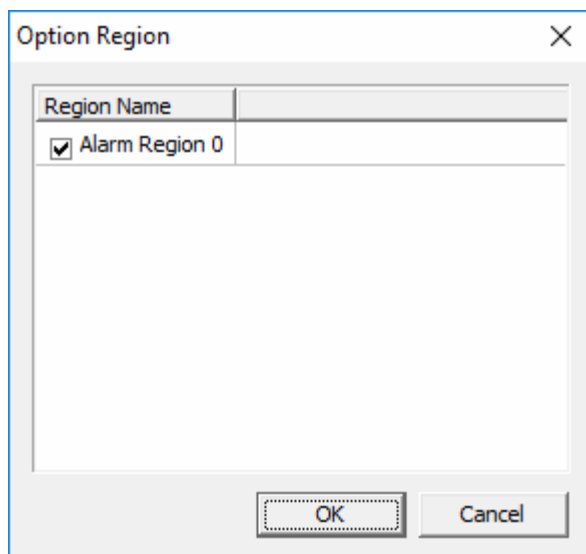

Figure 4-89 Option Region
- Alarm region filter setting: Select an alarm group and click the corresponding alarm region button, the dialog box of alarm region selection will pop, shown in *Figure 4-89*. When click "Region name", three options "Select all, Clear, Invert selection" will pop up, which all regions can be selected or cleared by. Click "OK" after the alarm regions have been selected. If no region is selected in an alarm group, the hook before the group will disappear automatically, i.e. the group is not selected. All groups can be selected or cleared by clicking the button "Select All" or "Clear".